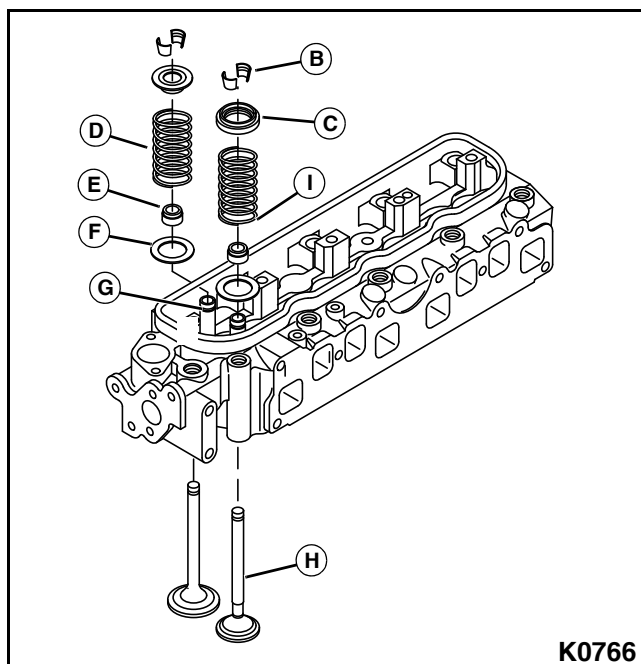

Figure 3-136
2. Apply a light layer of assembly lubricant to the valve (H) stem before inserting into the valve guide (G). **See Figure 3-136.**
3. Install the valve into the valve guide (G).
4. Place the oil seal installation sleeve (if provided) over the valve stem. Apply a thin layer of assembly lubricant to the top of the sleeve and install the oil seal (E) over the sleeve until it reaches the top of the valve guide. Press the oil seal into place using the appropriate oil seal installation tool.
5. Apply a light coat of assembly lubricant and install the valve spring seat (F).